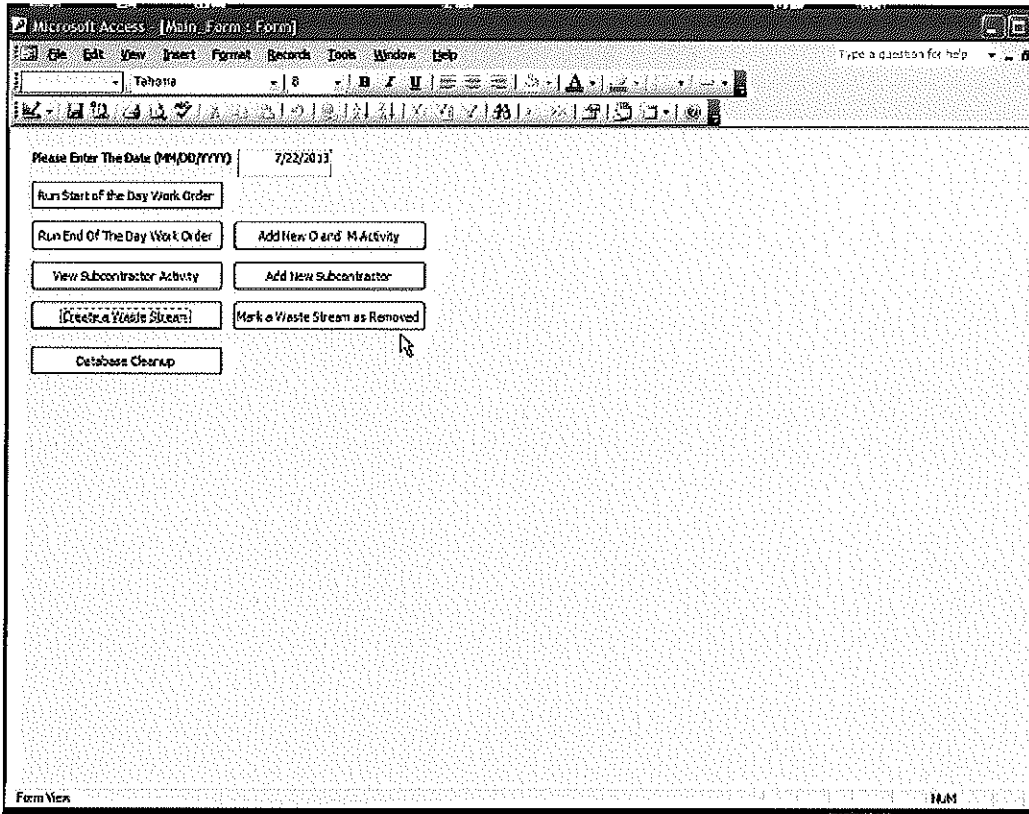
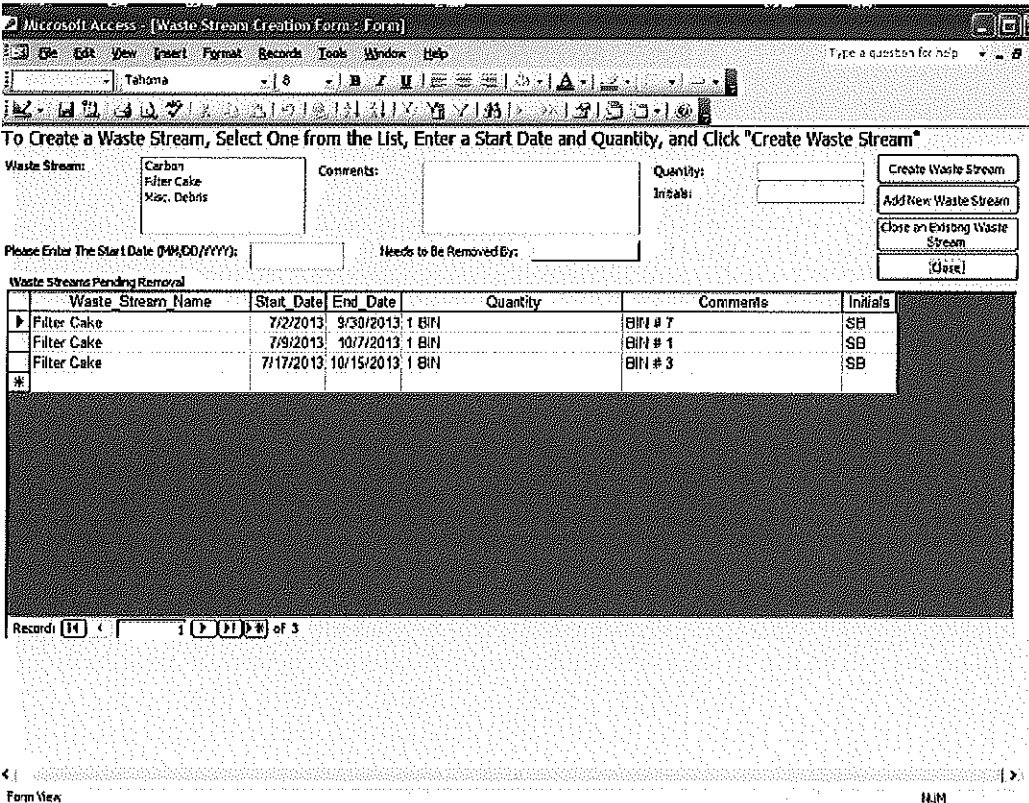

Figure 1. Main Screen in O&M Tracking Tool
Figure 2. Waste Stream Screen in O&M Tracking Tool
8. To input a new waste generated (anytime a bin of filtercake is started by running the RDVF), open the O&M tracking tool. Type in the start date (date the bin starts filling) and click "Create a Waste Stream" (see Figure 1). Click the type of waste stream (Carbon, Filter Cake, Misc. Waste), fill in the Comments ("Bin #"), the Quantity (1 bin), and your initials (see Figure 2). Click Create Waste Stream when complete. When the waste gets picked up and removed from the site, click "Mark a Waste Stream as Removed" (see Figure 1) and add the date it was picked up.